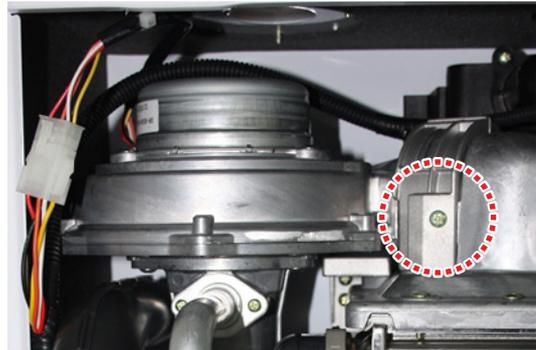

Figure4
4. Remove the mounting screw from the fan assembly as shown in Figure 4 below.